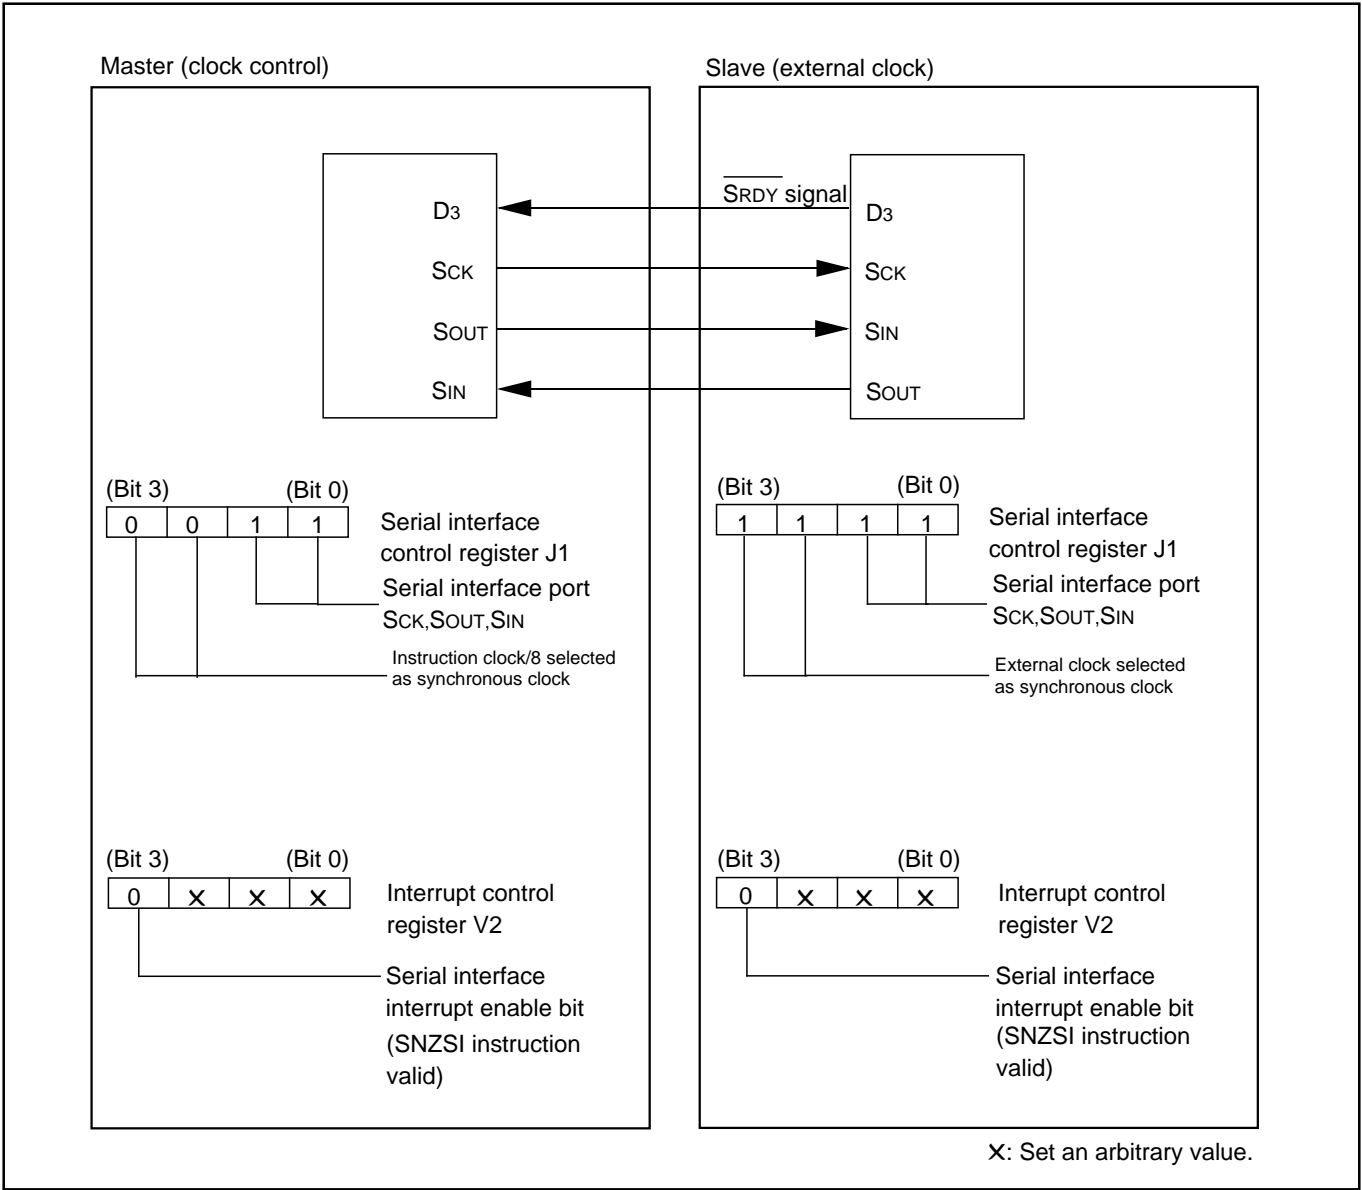

Fig. 38 Serial interface connection example
Figure 38 shows the serial interface connection example. Serial interface interrupt is not used in this example. In the actual wiring, pull
up the wiring between each pin with a resistor. Figure 38 shows the data transfer timing and Table 16 shows the data transfer sequence.
• Setting the serial interface control register J1 and interrupt control register V2 shown in Figure 38.	• Setting serial interface control register J1, and interrupt control register V2 shown in Figure 38.